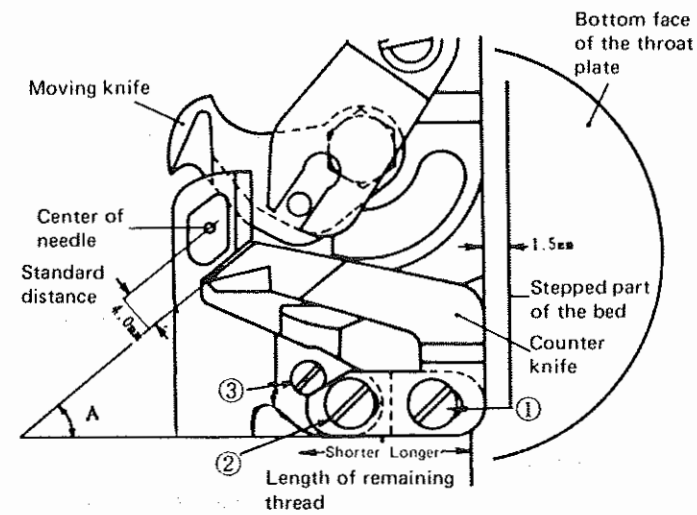
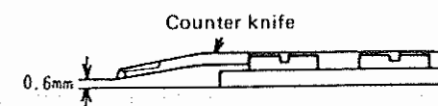
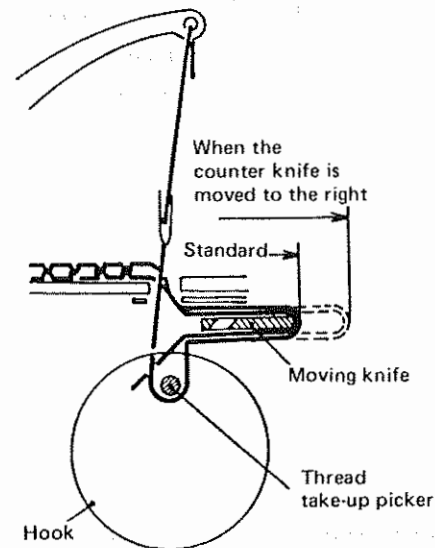

Fig. 38
Fig. 39
Fig. 41
Refer to Fig. 38 for proper installation of the counter knife. The standard distance from the center of the needle to the blade point of the counter knife is 4.0 mm. The blade point of the counter knife is located 0.6 mm above the installing surface as shown in Fig. 39.
The sharpness of the counter knife depends upon the installing angle of the blade tip of the counter knife. The proper matching of the blade of the counter knife with that of the moving knife will provide the best sharpness of the counter knife. Check the sharpness of the counter knife, and adjust the installing angle (A in Fig. 38) of the counter knife whenever the counter knife has been readjusted or changed. The installing position of the counter knife can be moved to the right from the standard position. When the counter knife has been installed at such a position, the needle and bobbin threads to be pulled out become correspondingly longer, and also the timing of thread trimming is delayed, resulting in an increased length of the thread remaining on the needle after trimming (See Fig. 41).
Change the thread guide for knife by loosening screws ② and ③ with screw ① (Fig. 38) left tightened. If the installing angle of the counter knife has been disturbed, readjust it in accordance with 3-13 "Installing the counter knife".